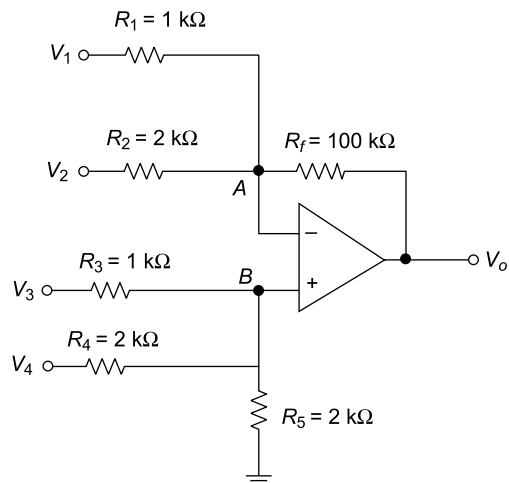

Fig. 5.90
26. Figure 5.90 shows an operational amplifier circuit. Determine the output voltage V_o . Assume $V_1 = 3\text{ V}$, $V_2 = -5\text{ V}$, $V_3 = 2\text{ V}$ and $V_4 = -2\text{ V}$.